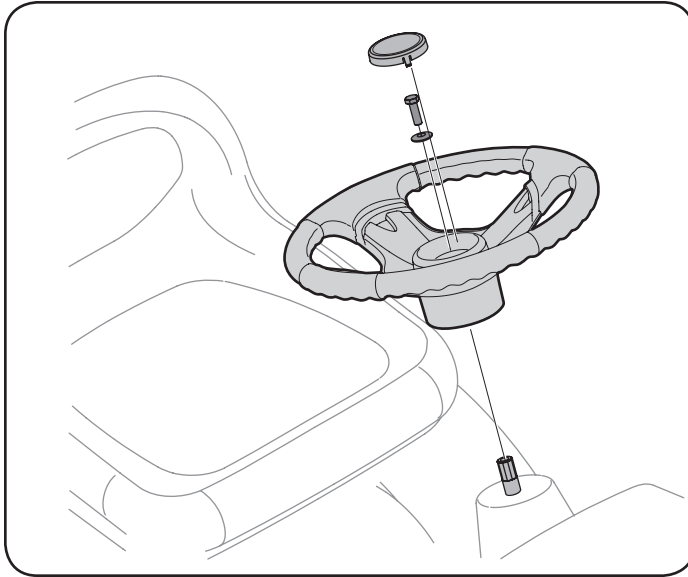

Figure 3
2. Place the washer (with the cupped side down) over the steering wheel and secure with the hex bolt. See Figure 3.